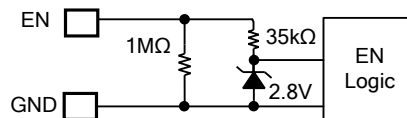

Figure 2: Zener Diode between EN and GND
Enable (EN) is a digital control pin that turns the regulator on and off. Drive EN high to turn on the regulator. Drive EN low to turn off the regulator. An internal 1M Ω resistor from EN to GND allows EN to be floated to shut down the chip. EN is clamped internally using a 2.8V series Zener diode (see Figure 2). Connecting the EN input through a pull-up resistor to VIN limits the EN input current below 100 μ A, preventing damage to the Zener diode. For example, if a 100k Ω pull-up resistor is connected to 12V VIN, then $I_{Zener} = (12V - 2.8V) / (100k\Omega + 35k\Omega) = 68\mu A$.